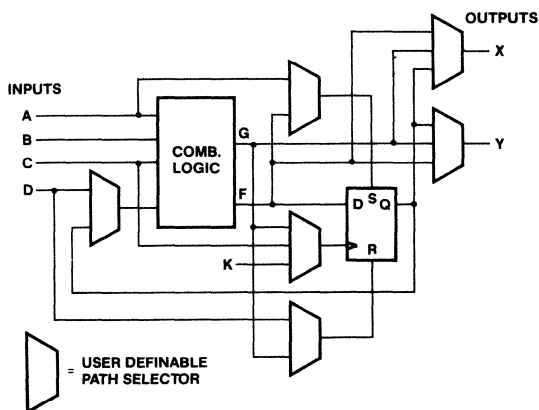

Figure 2. CLB Logic Equivalent
Each logic block has a combinatorial logic section, a storage element, and an internal routing and control section as shown in Figure 2. Each CLB has four general-purpose inputs: A, B, C, and D; and a special clock input (K), which may be driven from the interconnect adjacent to the block. Each CLB also has two outputs, X and Y, which may drive interconnect networks.
Additional memory bits are used to set the user-definable path selectors, shown in Figure 2, which determine CLB internal connections. All memory bits are determined automatically by the XACT design editor as the design is entered.